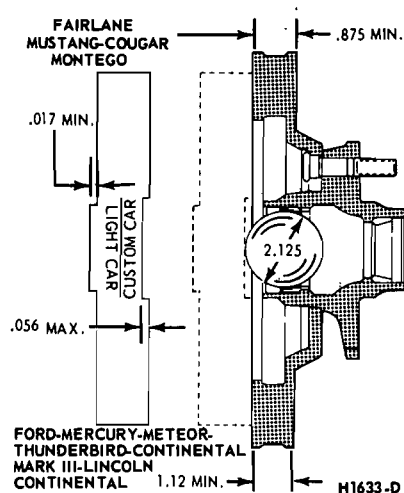

FIG. 16—Disc Brake Rotor Service Limits
ish of the braking surfaces are to be 80/15 micro inches. The minimum limiting dimensions (Fig. 16) from the inboard bearing cup to the outboard rotor face and from the inboard bearing cup to the inboard rotor face must be observed when removing material from the rotor braking surfaces. On all models the limiting dimensions are to be measured with the ball and gage bar (Rotunda Kit FRE-70160).
Refer to Fig. 16.
brake rotors require refinishing. Gauging of the rotor is accomplished on the bench prior to mounting in a rotor lathe. A controlled dimension notch machined in one edge of the gauge bar identified **custom car** (Ford, Mercury, Meteor and Thunderbird, Continental Mark III and Lincoln Continental). The opposite raised center of the gauge bar is identified **light car** (Montego, Fairlane, Mustang and Cougar). Refer to Fig. 16.
3. Position the gauge bar across the rotor inner braking surface and over the gauge ball (Fig. 16). Measure the distance between the gauge bar and ball. This clearance is equal to the maximum allowable stock removal. If the gauge bar touches the ball, no additional stock removal is allowed. If the gauge bar is below the top of the ball, the rotor must be replaced.